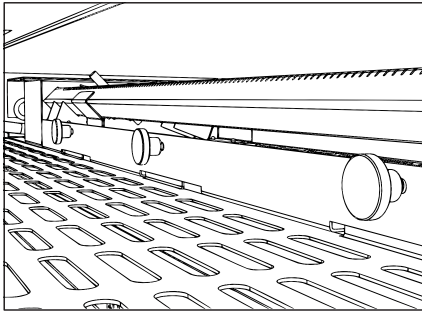

FIGURE 8
4. Locate and remove the thumb screws shown in Figure 8 and 9 securing the SBI in place.